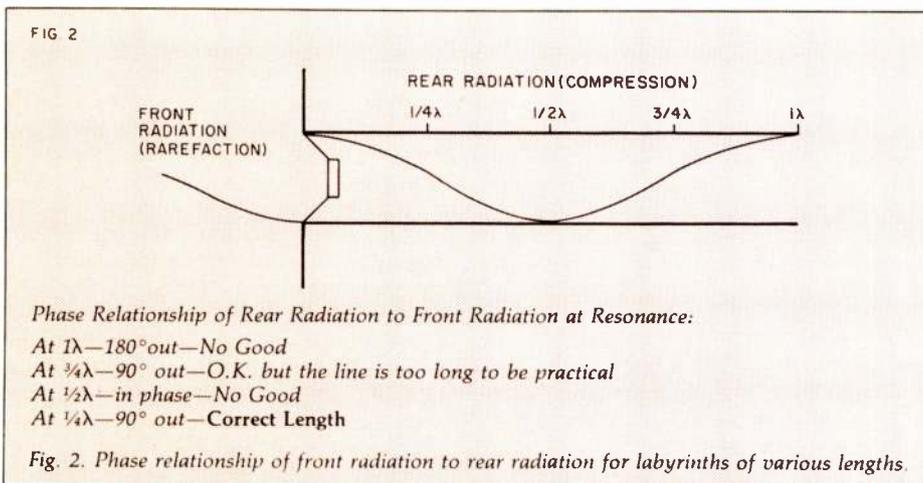

Fig. 2. Phase relationship of front radiation to rear radiation for labyrinths of various lengths.
The  $\frac{1}{4} \lambda$  size was chosen for two reasons: (1) to dampen excessive woofer output at resonance; and (2) to reinforce the octave above resonance. A look at Fig. 2 will clarify this. It shows a woofer loaded into a pipe that is a full  $\lambda$  long at its resonant frequency (whatever it happens to be). The woofer is reproducing a sine wave (which I have drawn in) at this frequency. As the illustration shows, the front and rear radiation are  $180^\circ$  out of phase. (In this case, the woofer has moved backward, producing a rarefaction in front and a compression in the rear.)
The phase relationship between the front radiation and the output of the pipe will determine whether cancellation or reinforcement takes place. Considering the first requirement, damping of the excessive output at resonance, turn again to Fig. 2. If the pipe is one  $\lambda$  of the resonant frequency, the pipe's output is  $180^\circ$  out of phase with the woofer's front radiation, causing total cancellation at this frequency. Obviously this is undesirable. At  $\frac{3}{4} \lambda$ , the output is  $90^\circ$  out of phase with front radiation. This is what we are looking for since the pipe's output will cause partial (not complete) cancellation of the output at resonance. Unfortunately, a pipe  $\frac{3}{4} \lambda$  long would be unmanageably large; so we must find another length.